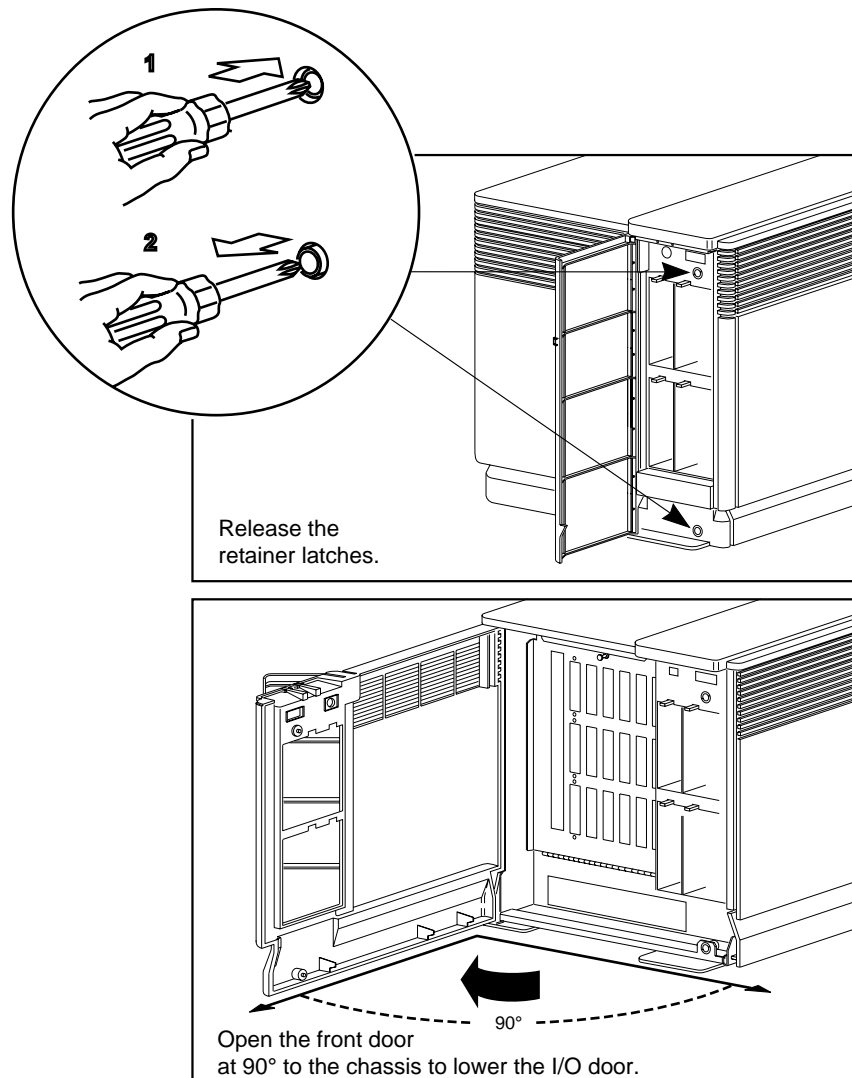

Figure 3-4 Opening the Front Door
1. Open the front door as shown in Figure 3-4.